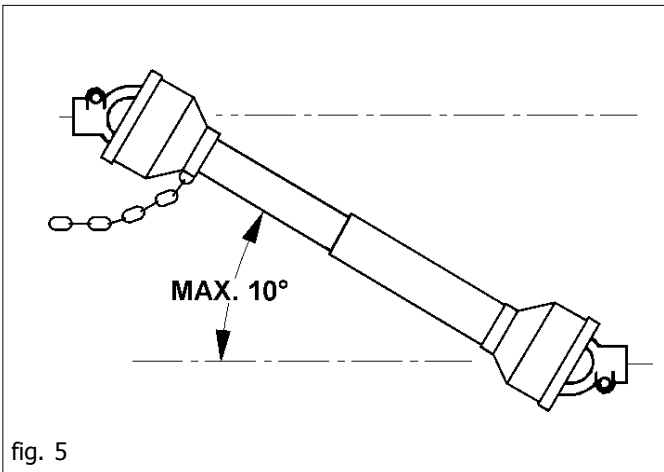

fig. 5
- 47) Always disconnect the power take-off when the Cardan shaft is at too wide an angle (never more than 10° - Fig. 5) and when it is not being used.